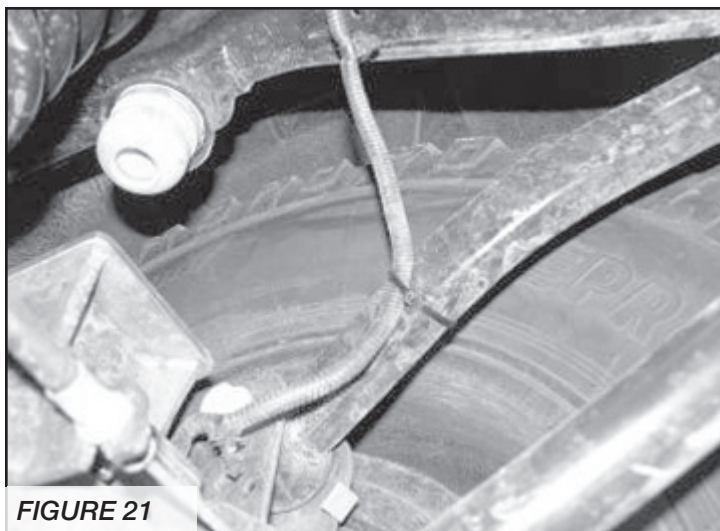

FIGURE 21
24. Reconnect the factory ABS mount to the rear differential and torque to 20 ft -lbs. Route the ABS line in the stock routing and attach the line to the upper link arm with the supplied 8" zip ties. SEE FIGURE 21